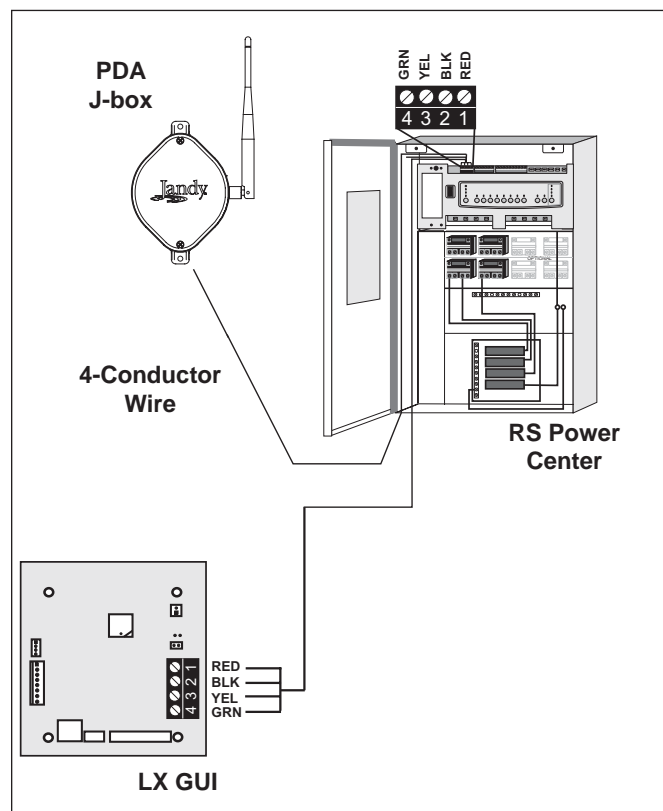

Figure 10. LX Heater Connection to Power Center
3. Run a 4-conductor cable from the LX GUI red, 4-pin connector to the RS power Center red, 4-pin connector (see Figure 10).